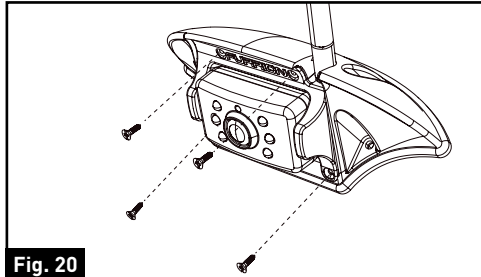

Fig. 20
12. Gently place the camera into the bracket and secure with 4 flat self-tapping screws. Make sure the connections and the camera antenna are secured tightly. (Fig. 20)